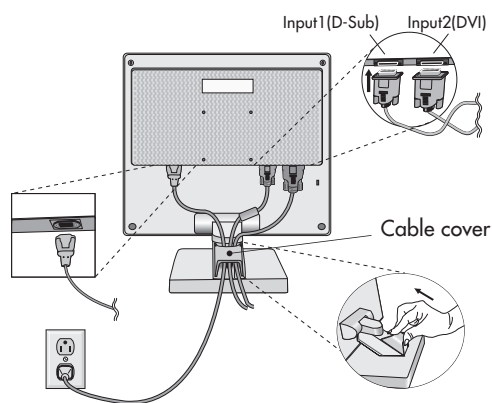

Figure C.1
3. Remove the cable cover. Connect the 15-pin mini D-SUB of the video signal cable and DVI signal cable (not included) to the appropriate connector on the back of the monitor (**Figure C.1**).
4. Connect one end of the power cord to the monitor and the other end to the power outlet. Place the Video Signal Cable and power cord under Cable cover (**Figure C.1**). Replace cable cover.